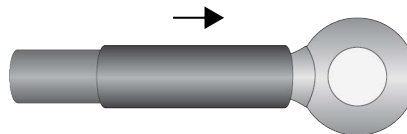

Figure 40. Sliding the Heat-Shrink Tube Over the Ring Terminal Lug
5. Slide the heat-shrink tube over the shaft of the ring terminal lug. Refer to Figure 40.